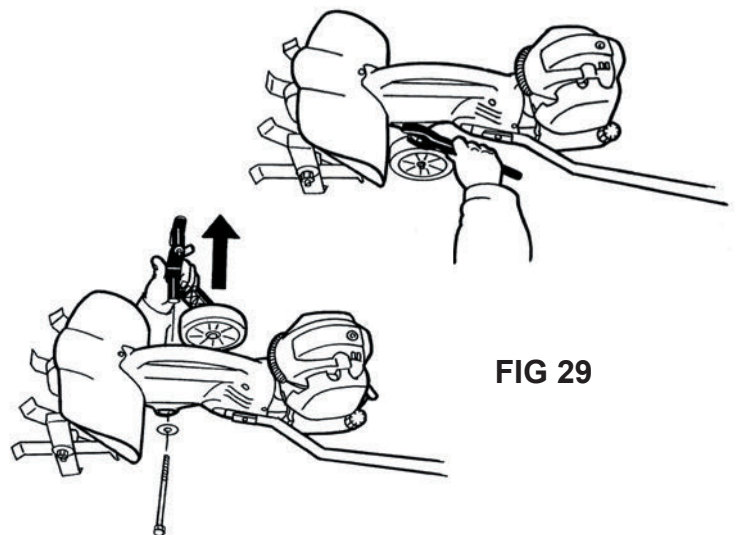

FIG 29
4. Remove wheel arm bolt and wheel arm Fig. 29.